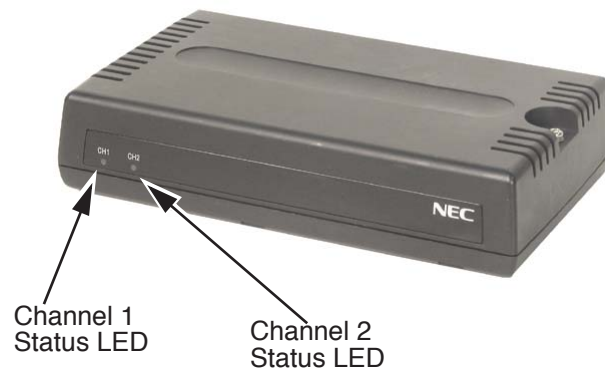
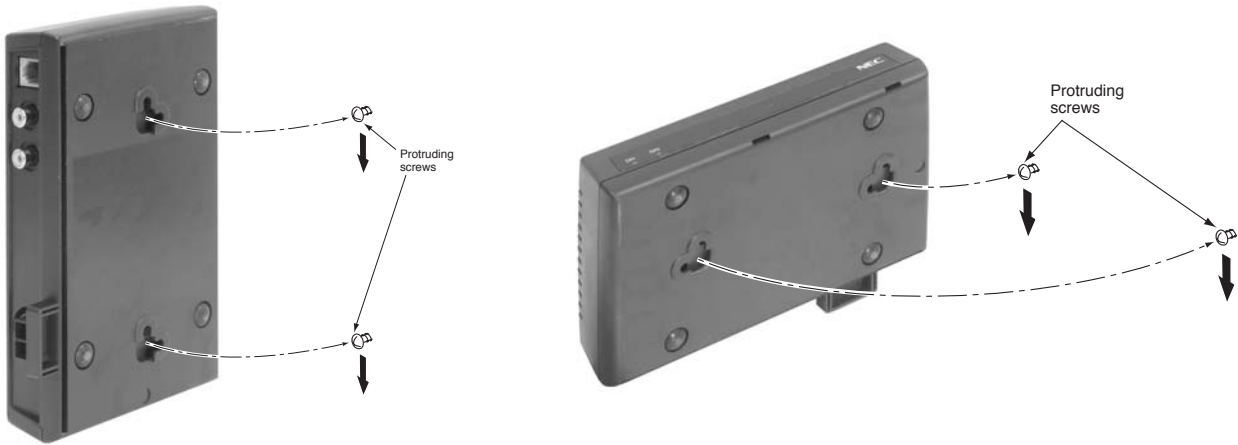

Figure 4-1: 2PGDAD MODULE
Figure 4-8: WALL MOUNTING THE 2PGDAD MODULE
4.2.1 Using a 2PGDAD Module (Figure 4-1 - Figure 4-8) - P/N 0891027